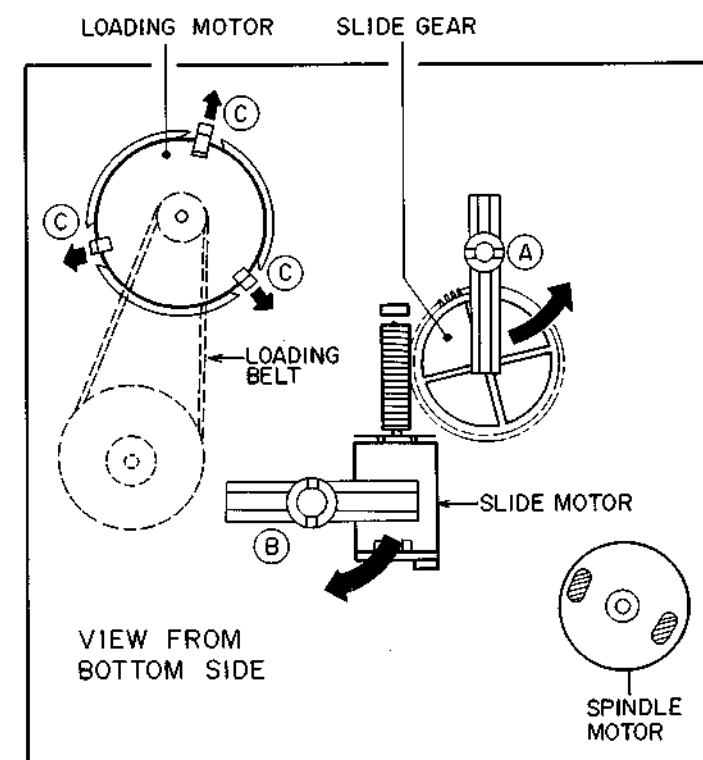
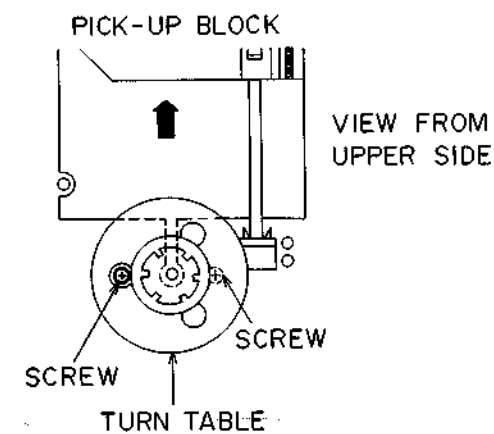

Fig. 4-4
Fig. 4-5
4.4 REPLACEMENT OF THE SPINDLE MOTOR (Refer to Fig 4-4 and Fig. 4-5)
- 1) Turn the GEAR HOLD LEVER (A) counter-clockwise, then pull out the SLIDE GEAR (Fig. 4-4)
- 2) Move the PICK-UP BLOCK to opposite from the SPINDLE MOTOR (→ direction). (Fig. 4-5)
- 3) Turn the TURN TABLE so that the screw peep through the TURN TABLE (Fig. 4-5)
4-5. REPLACEMENT OF THE LOADING MOTOR (Refer to Fig. 4-4)
4-6. REPLACEMENT OF THE SLIDE MOTOR (Refer to Fig. 4-4)